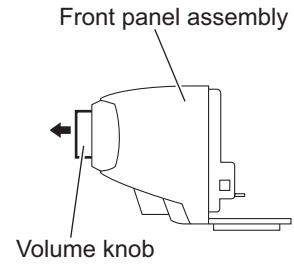

Fig.3
- (1) From the inside of the front panel assembly, remove the two screws **D** attaching the power key board.
- (2) Take out the power key board and remove the solder from the soldered point **d** to remove the parallel wire.
3.2.5 Removing the front board (See Figs. 3 and 4)
- (1) From the front side of the front panel assembly, pull out the volume knob in the direction of the arrow. (See Fig. 3.)